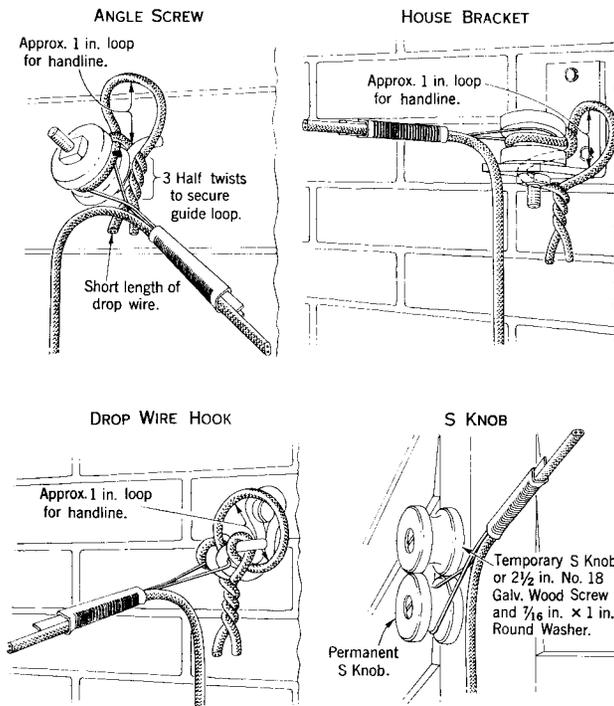

Fig. 2 — Temporary Guide Loop
- (1) Remove the C knob or the SC wire clip and the associated loop of drop wire from the first building attachment. Do not remove the drop wire clamp which supports the wire span.
- (2) Attach a temporary guide loop to the first building attachment, such as shown in Fig. 2, to prevent the handline used in releasing the excess tension from becoming accidentally disengaged from the building attachment.
- (3) Place a temporary drop wire clamp on the wire to be lowered, about one foot out in the span. Seat the clamp firmly on the wire.
- (4) Place a handline over the first building attachment and through the temporary guide loop. Tie the handline securely to the tail of the temporary drop wire clamp.
- (5) Return to the ground. Pull the handline sufficiently taut to remove tension from the original drop wire clamp and lash the handline to a substantial and secure support near the base of the building.